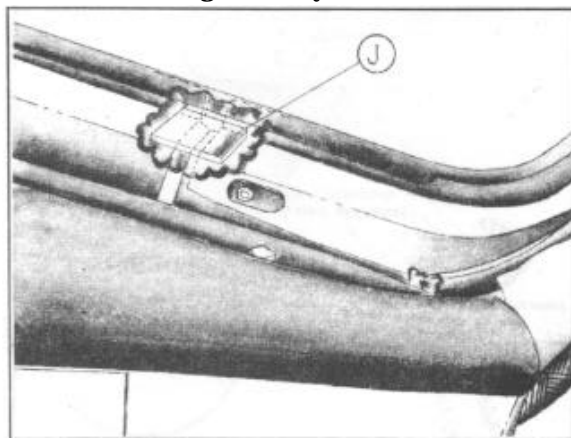

FIGURE 42
6. Caulk joint in lower outside face of windshield channel at (J), Figure 42, with body sealer. Liberally apply body sealer.
8. Replace shims as selected in operation No. 4. Apply body sealer completely around shim but not on top of shim, Figure 42.